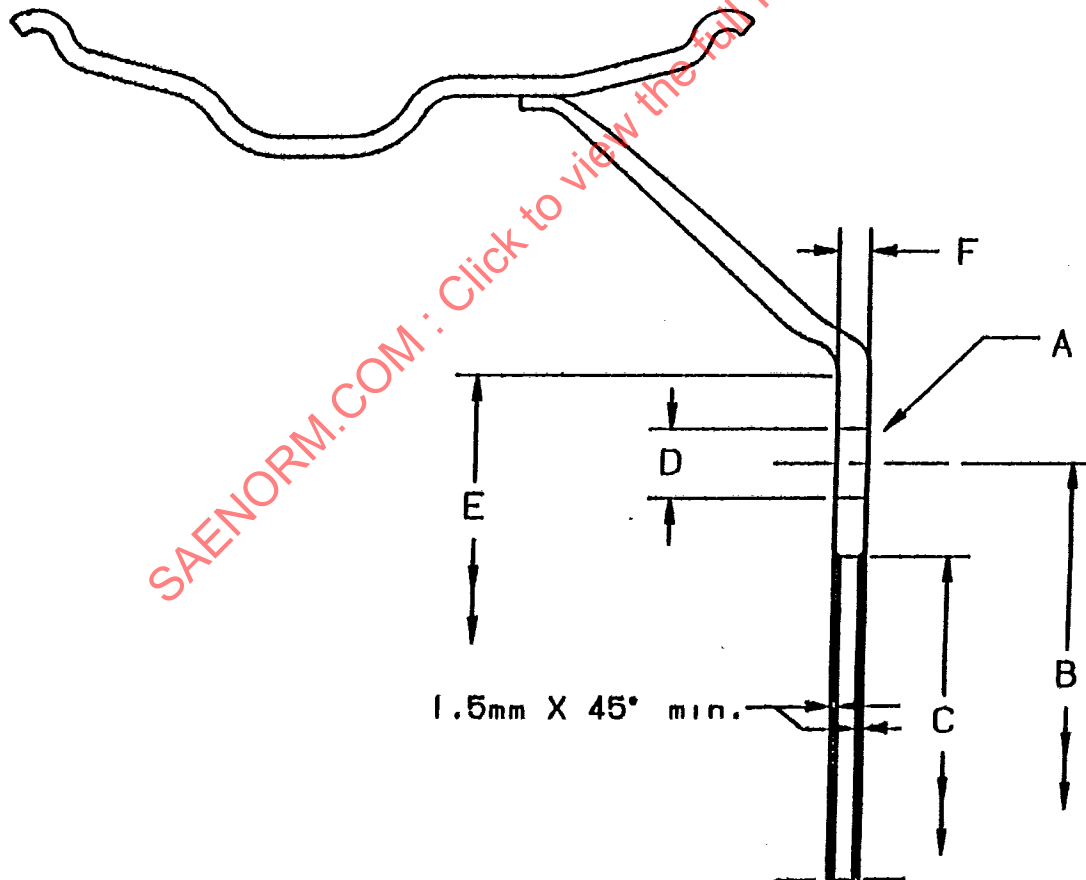

FIGURE 1 - Ferrous Disc Wheel
A detailed listing of basic nomenclature is contained in SAE J393. Figs. 1 through 13 introduce, illustrate, and specify additional nomenclature and definitions.
5.1.1 Definitions of Wheel Dimensions (Ref. Fig. 1 and 2):